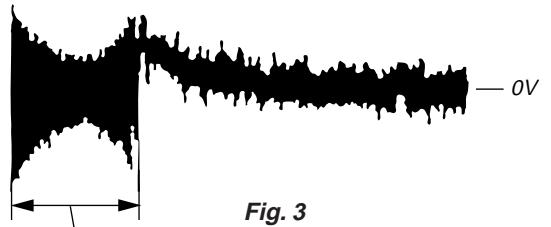

Fig. 3
7. Press ▶II (▶▶I) or ▲▲ keys and observe the 100 track jump waveform. Check that no traverse waveform appears for both ▶II (▶▶I) or ▲▲ directions. (See Figures 3 and 4.) It is acceptable if the traverse waveform appears only now and then, but if it appears constantly raise tracking gain slightly and check step 7 again.